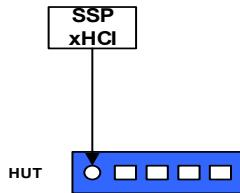

Figure 3-10: Hub Only Topology
- o Configure the Hub Under Test as shown in Figure 3-10 and attach it to an SSP xHCI port.